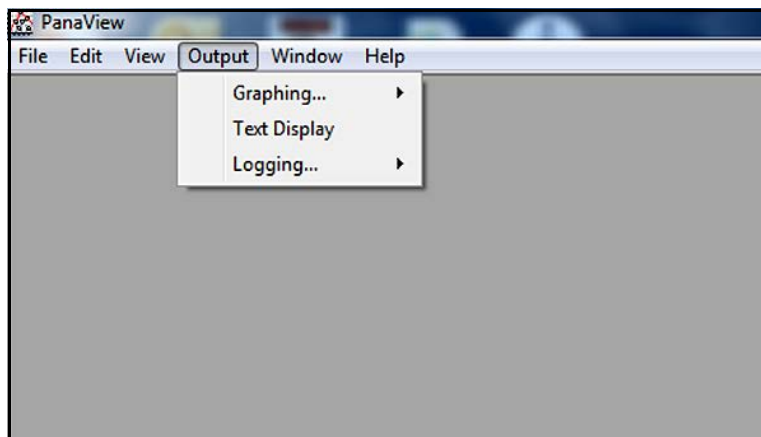

Figure 51: The Output Menu
To access PanaView's data handling options, pull down the "Output" menu, as shown in *Figure 51* below.
2. Pull down the “Output” menu and click on the “Text Display” option (see Figure 51 on page 39).
2. Pull down the "Output" menu and click on the "Graphing - New" option (see Figure 51 on page 39).